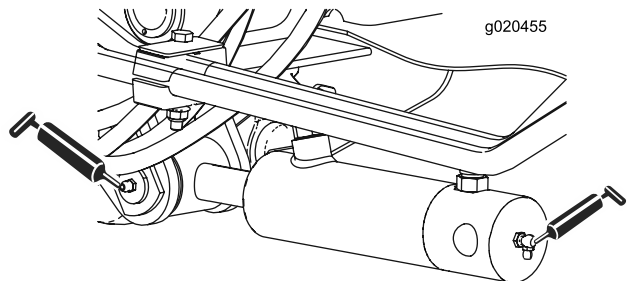

**Figure 70**
- 3 spindle-shaft bearings—located under the pulley (Figure 70)
- 2 idler-arm-pivot bushings (Figure 70)